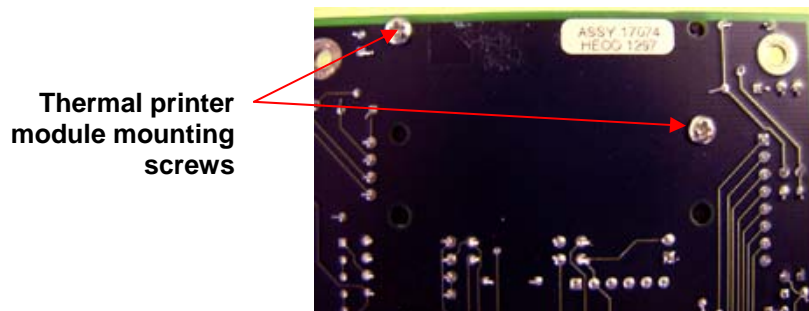

Fig. 5
8. Turn the PCB assembly over and remove the 2 thermal printer module mounting screws and remove the printer module. (see Fig. 5 & 6)